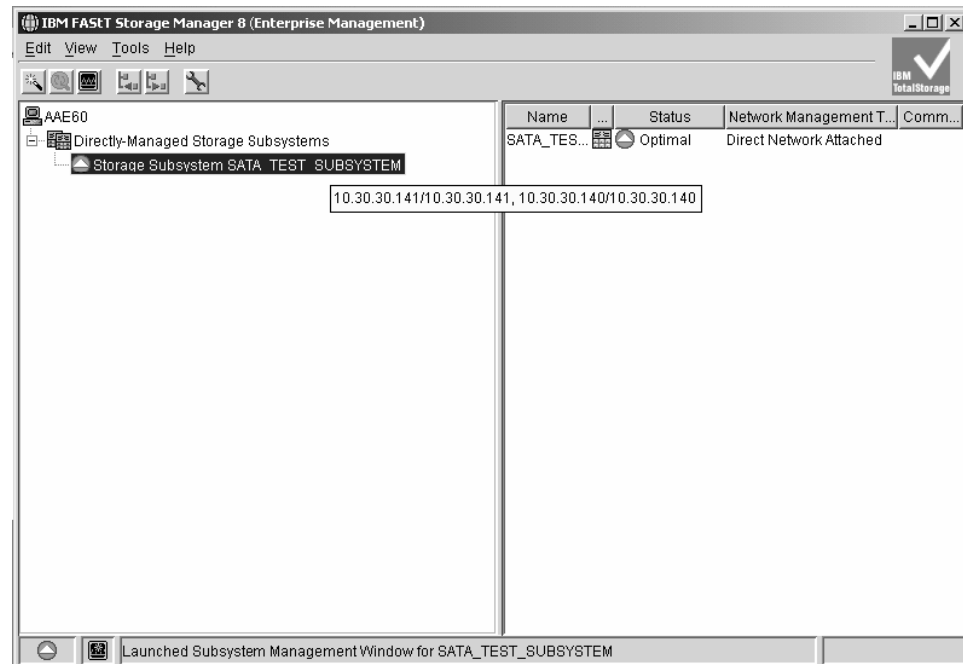

Figure 53. Only one entry appears in the Directly-Managed Storage Subsystem tree
- If Controller A starts up successfully after synchronizing with the firmware and NVSRAM in Controller B, Controller A and Controller B will be displayed as a single entry under the Directly-Managed Storage Subsystem tree in the Enterprise Management window as Figure 53 shows. Right-click the entry for Controller B and select **Manage Device**. A Subsystem Management window should open without being preceded by the Partially Manage Device window.